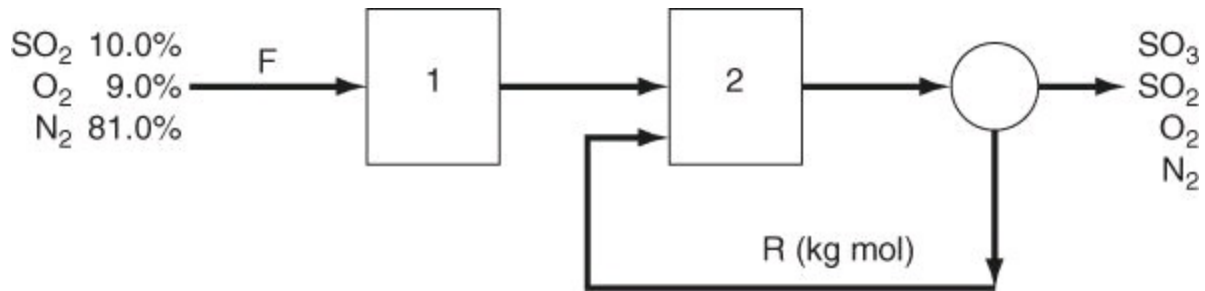

Figure P6.3.21
***6.3.21. Sulfur dioxide may be converted to SO_3 , which has many uses, including the production of H_2SO_4 and sulfonation of detergent. A gas stream having the composition shown in Figure P6.3.21 is to be passed through a two-stage converter. The fraction conversion of the SO_2 to SO_3 (on one pass though) in the first stage is 0.75 and in the second stage, 0.65. To boost the overall conversion to 0.95, some of the exit gas from stage 2 is recycled back to the inlet of stage 2. How much must be recycled per 100 mol of inlet gas (stream F)? Ignore the effect of temperature on the conversion.